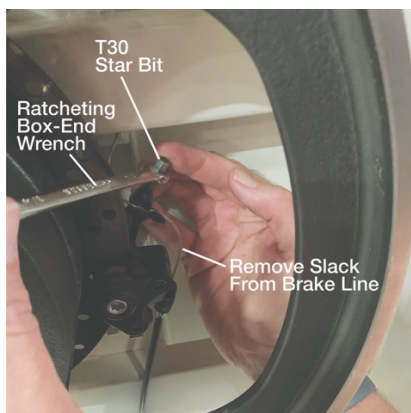

Figure 10-3
- Using a T30 star bit and a 1/4" ratcheting box-end wrench, loosen the brake line set screw and remove the slack from the brake line by pushing the excess brake line past the brake line set screw (see Figure 10-3).